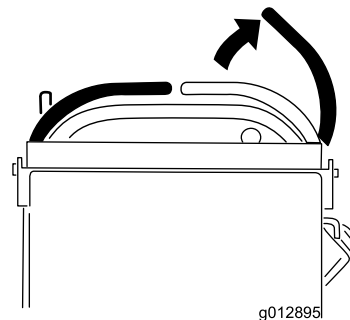

Figure 11
- Move the motion-control levers to neutral and move the right side motion-control lever into the neutral-lock position (Figure 11).